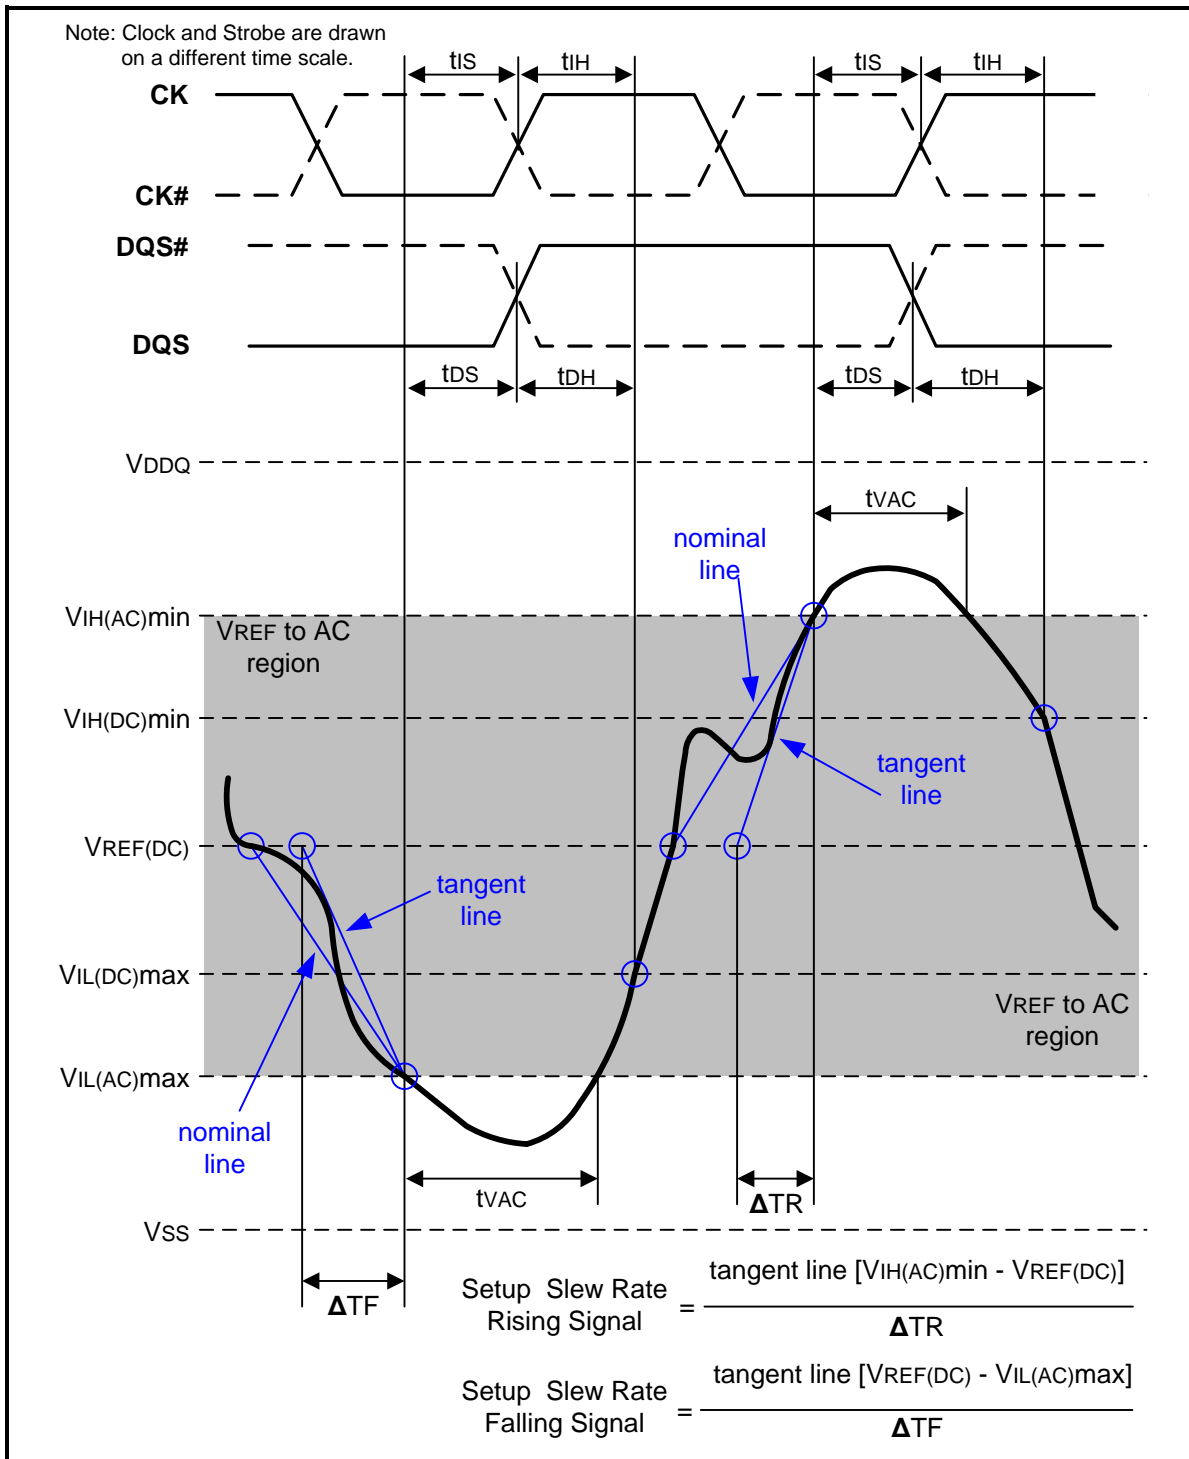

Figure 109 – Illustration of tangent line for setup time tDS (for DQ with respect to strobe) and tIS (for ADD/CMD with respect to clock)
Setup ( $t_{IS}$ ) nominal slew rate for a rising signal is defined as the slew rate between the last crossing of  $V_{REF}(\text{DC})$  and the first crossing of  $V_{IH}(\text{AC})_{\text{min}}$ . Setup ( $t_{IS}$ ) nominal slew rate for a falling signal is defined as the slew rate between the last crossing of  $V_{REF}(\text{DC})$  and the first crossing of  $V_{IL}(\text{AC})_{\text{max}}$ . If the actual signal is always earlier than the nominal slew rate line between shaded 'VREF(DC) to AC region', use nominal slew rate for derating value (see Figure 107). If the actual signal is later than the nominal slew rate line anywhere between shaded 'VREF(DC) to AC region', the slew rate of a tangent line to the actual signal from the AC level to  $V_{REF}(\text{DC})$  level is used for derating value (see Figure 109).
Setup (tDS) nominal slew rate for a rising signal is defined as the slew rate between the last crossing of VREF(DC) and the first crossing of VIH(AC)min. Setup (tDS) nominal slew rate for a falling signal is defined as the slew rate between the last crossing of VREF(DC) and the first crossing of VIL(AC)max (see Figure 107). If the actual signal is always earlier than the nominal slew rate line between shaded 'VREF(DC) to AC region', use nominal slew rate for derating value. If the actual signal is later than the nominal slew rate line anywhere between shaded 'VREF(DC) to AC region', the slew rate of a tangent line to the actual signal from the AC level to VREF(DC) level is used for derating value (see Figure 109).